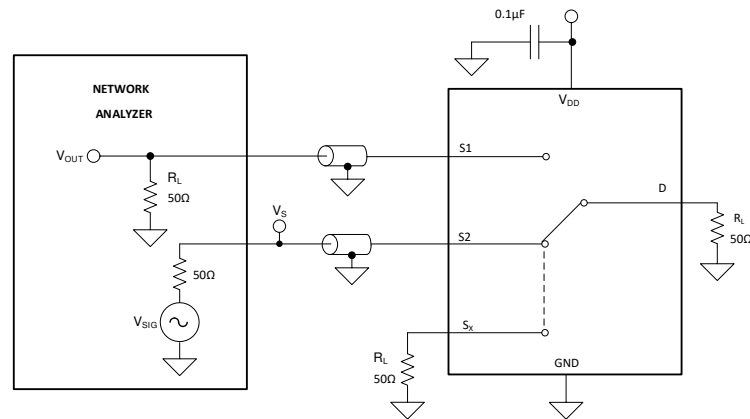

Figure 8-9. Channel-to-Channel Crosstalk Measurement Setup
Crosstalk is defined as the ratio of the signal at the drain pin (D) of a different channel, when a signal is applied at the source pin (S_x) of an on-channel. **Figure 8-9** shows the setup used to measure, and the equation used to compute crosstalk.